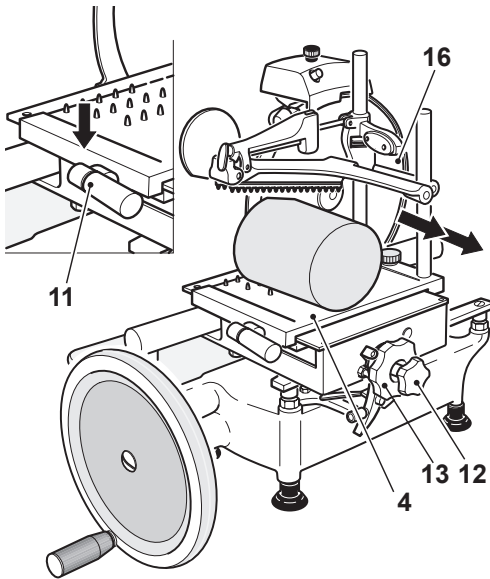

Figure 12-1
- Turn the product holder operating handwheel (12) clockwise or gently press down on the fast forward lever (11) to move the product holder (4) away from the knife (16) (Figure 12-1).